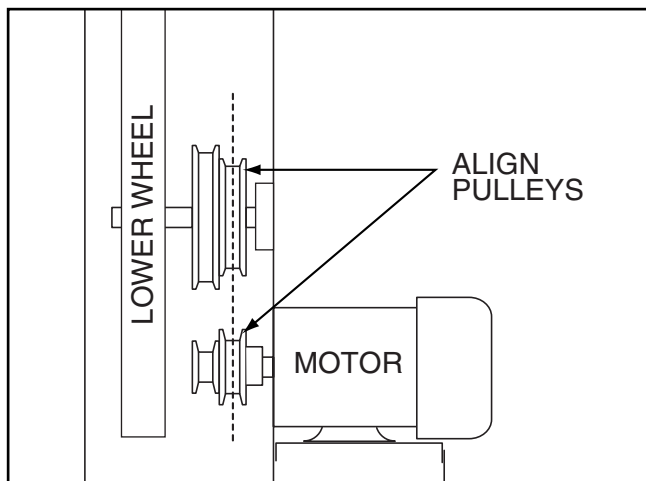

Figure 24. Wheel to pulley alignment.
1. Check for proper pulley alignment by placing a straightedge on the outside edge of the upper pulley so that it overlaps the motor pulley. If the straightedge does not touch both pulleys evenly, the pulleys are not aligned. Loosen one or both of the pulley setscrews on their shafts and slide the pulleys toward alignment. Remember to retighten the setscrews when finished. **See Figure 24.**